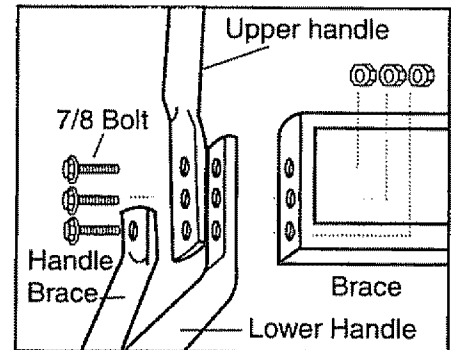

FIGURE 2
**STEP 2:** Attaching the handle: remove the bolts retaining the panel to the lower handle. You need six bolts to mount the handle. Two of the six bolts were those you just removed. The other four are supplied with loose hardware in the plastic bag. (see Fig. 2) Take the bottom section of the handle (Fig. 3) and install a bolt through the brace, the upper handle section, and the panel or bracket. Put a nut on each bolt and secure the panel or bracket on both sides of the handle.